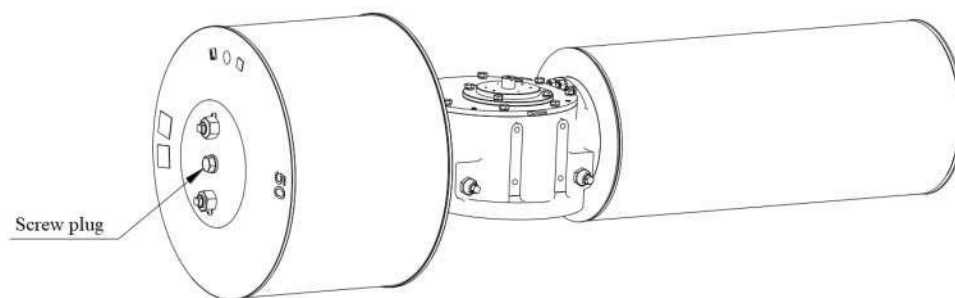

Figure 9
1) Unscrew the screw plug on the cover of the outer cylinder (see Figure 9);
3) unscrew the screw plug on the outer cylinder (see Figure 9)